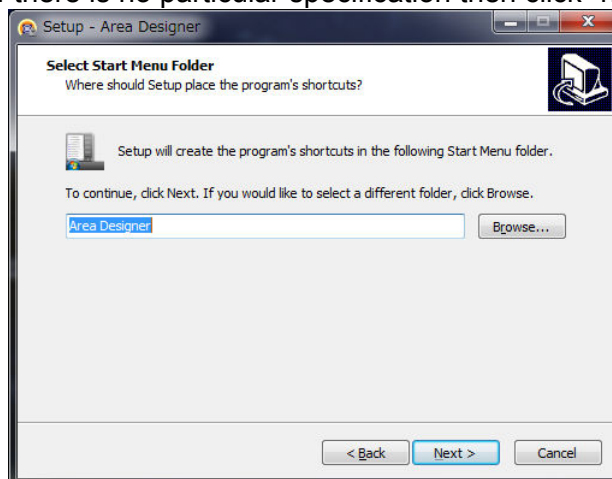

Fig 2-4 Specify the program group
6. Once you click next as shown in Fig 2-4 then, proceed to additional task select screen. After selecting the additional tasks you would like for this setup to perform while installing, then click next.